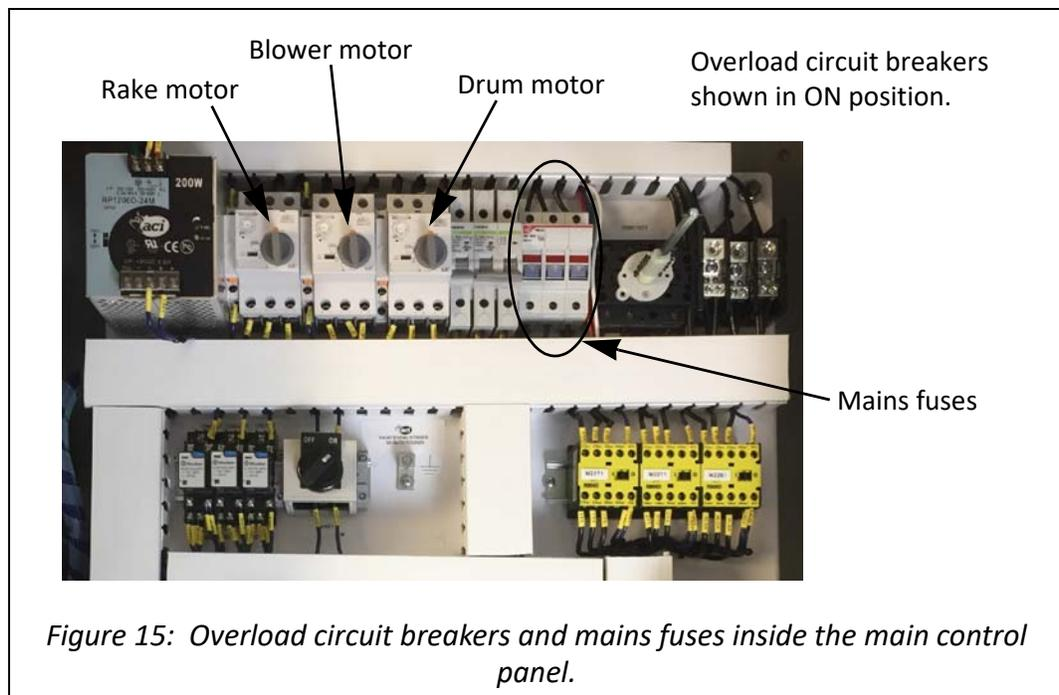

Figure 15: Overload circuit breakers and mains fuses inside the main control panel.
- There are three (3) 15 A mains fuses (see Figure 15 on page 38). These fuses should only require replacement if there has been a hard short to ground. In the unlikely event that one or more of the mains fuses have blown, the Voyager must be immediately taken out of service and disconnected from the 480V electrical supply. Do not replace these fuses without consulting with FORTA® Corporation; contact FORTA® Corporation as directed on page 7.
- Each motor in the system is protected from overload by a circuit breaker (see Figure 15 on page 38). If one or more of these circuit breakers is tripped during operation, the Voyager system is stopped and the fault display on the main control panel will indicate the appropriate fault(s). To reset the system when a motor fault occurs, perform the appropriate procedure below.
4. Open the main control panel and reset any overload circuit breakers that are tripped; see Figure 15.
4. Open the main control panel and check if the drum motor overload circuit breaker is tripped; see Figure 15. If the circuit breaker is tripped, reset it and continue with step 5. If the circuit breaker is not tripped, contact FORTA® Corporation as directed on page 7.